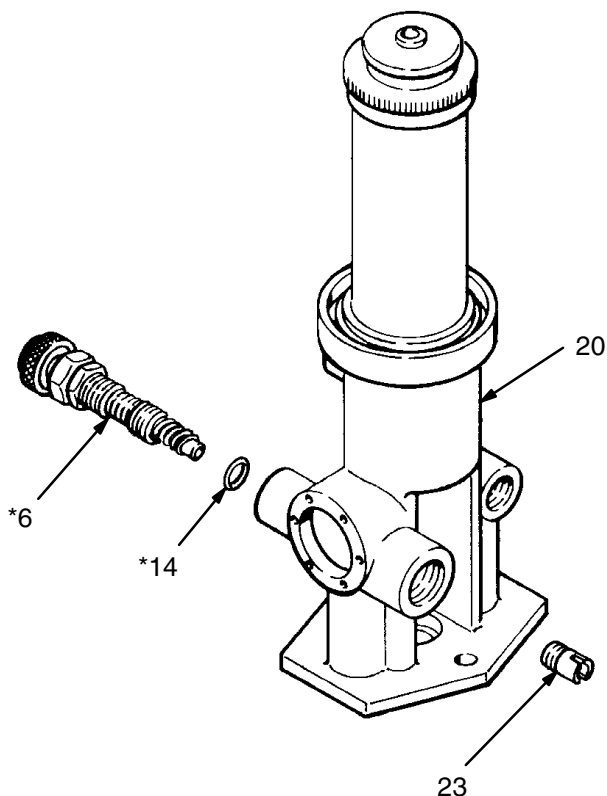

Fig. 4
1. Loosen the hex nut on the valve stem (6\*) and remove the stem and o-ring (14\*) from the base (20). See Fig. 4.
2. Use a screwdriver to remove the valve seat (23).